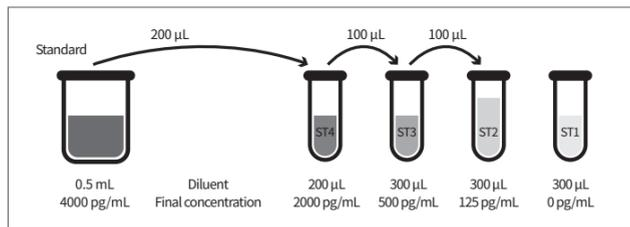

Figure 2. Preparation of standard curve dilutions
- Label four 1.5 mL microcentrifuge tubes from #1 to #4 to generate the dilutions for the standard curve. Serially dilute the standard solution as follows (see Figure 2 and Table 2): Pipet 200 μL of Diluent into tube #4, and 300 μL into tube #3 to 1, as shown in the diagram below. Make a serial dilution of the reconstituted standard (4,000 pg/mL) starting by transferring 200 μL of it into tube #4, and subsequently 100 μL from tube #4 to #3 and then 100 μL from tube #3 to #2, as shown in the diagram, and **mixing well after each transfer**. Do not transfer any further volume into tube #1 (0 pg/mL).